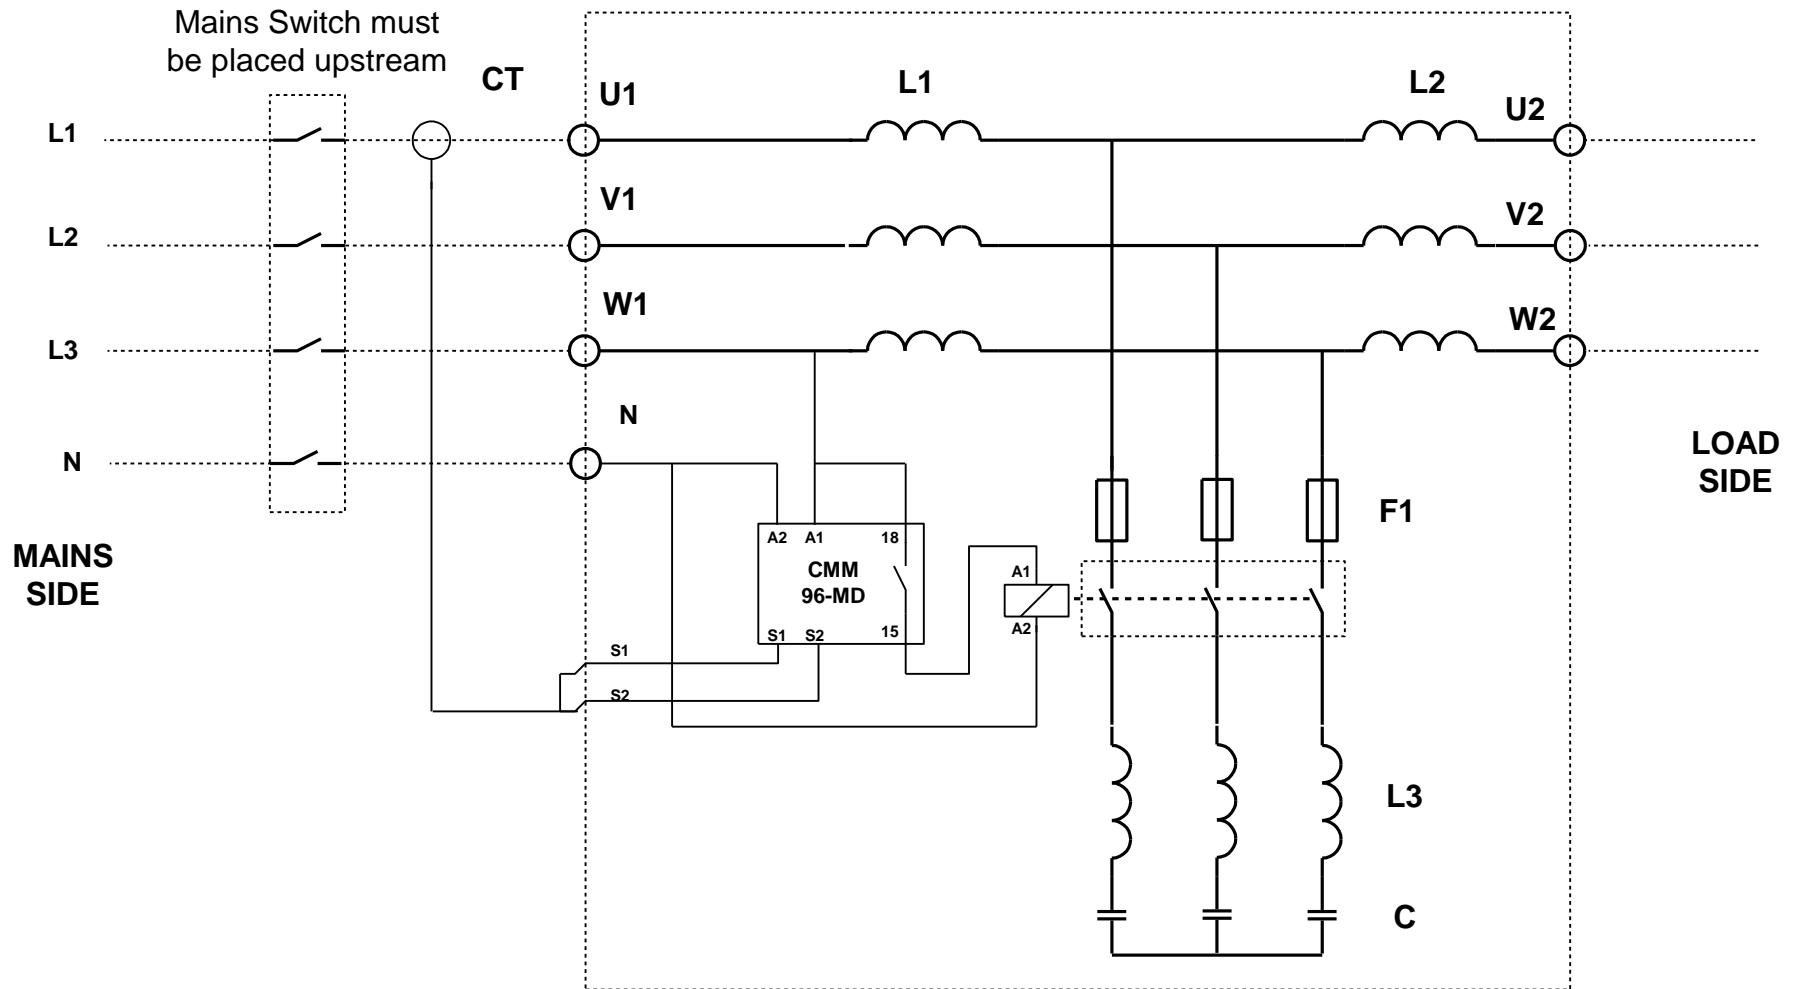

Fig. 3.- Schematic drawing
- Connect the power terminals (U1, V1, W1) to input cables coming from the mains side and (U2, V2, W2) to the cables going to the converter side (Figure 3).